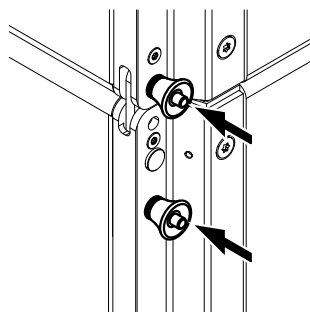

Fig. 2: SUB to SUB, 0° splay
- SUB to SUB with 0° splay between the cabinets (⇒ Fig. 2).